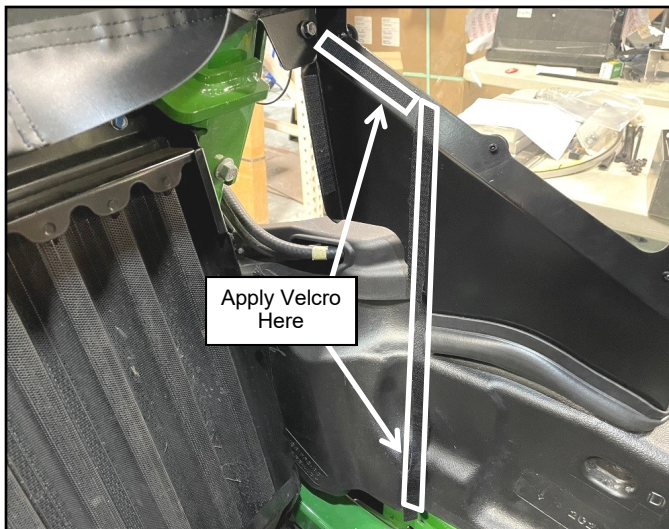

Fig. 2.17 (Apply Velcro to Left Filler and Fender)
2.17 Apply P.S.A. Velcro on the left fender up the left filler per Figure 2.17. Continue the Velcro on the lower edge of the window.